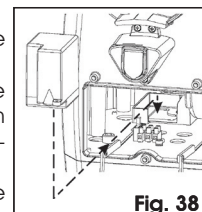

Fig. 38
2. Position the battery kit on the left of the transformer, see Fig.38.